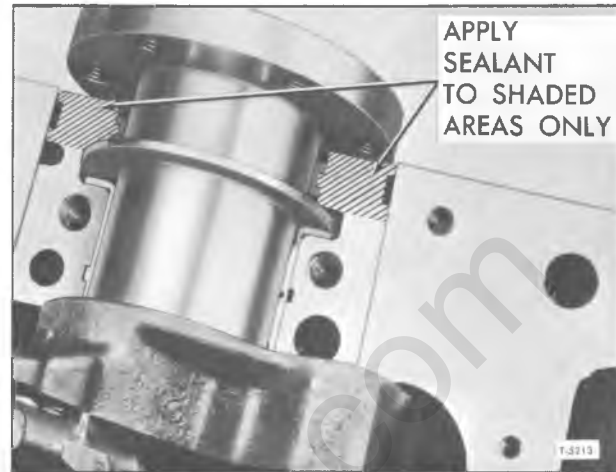

Figure 23—Sealer on Bearing Cap Area on Cylinder Block
3. Referring to figure 23, apply light coat of brush-on type oil sealing compound to block and mating surface on bearing cap. Do not apply sealer on treated ends of oil seals.